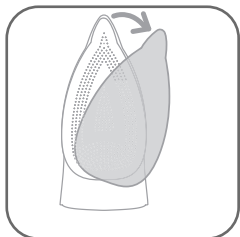

fig. 1
**IMPORTANT Before doing anything else, remove the soleplate protector (fig.1)!**